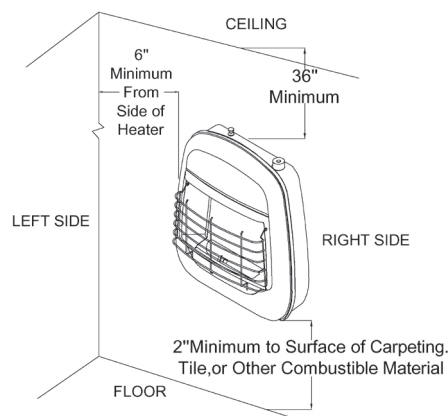

Figure 4 - Mounting clearances as viewed from front of heater (inches)
**WARNING:** Maintain the minimum clearances shown in Figure 4. If you can, provide greater clearances from floor, ceiling, and joining wall.
**WARNING:** Maintain minimum clearances shown in Figure 4. If you can, provide greater clearances from floor and joining wall.